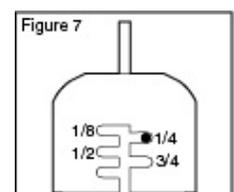

Figure 7
The Mini-Clik can keep the irrigation system from starting or continuing after rainfall quantities of 1/8", 1/4", 1/2", 3/4" or 1" (3.17, 6.35, 12.7, 19.05mm). To adjust it to the desired shut-off quantity, rotate the cap on the switch housing so that the pins are located in the proper slots (see Figure 7). Do not forcibly twist the cap as this might break the pins.
There is an adjustment capability on the Mini-Clik that will slow down the reset rate. By turning the “vent ring” (see Figure 7) to completely or partially cover the ventilation holes, the hygroscopic discs will dry more slowly. This adjustment can compensate for an “overly sunny” installation location, or peculiar soil conditions.
- [9] http://www.hunterindustries.com/sites/default/files/ts_miniclik_fig7.gif